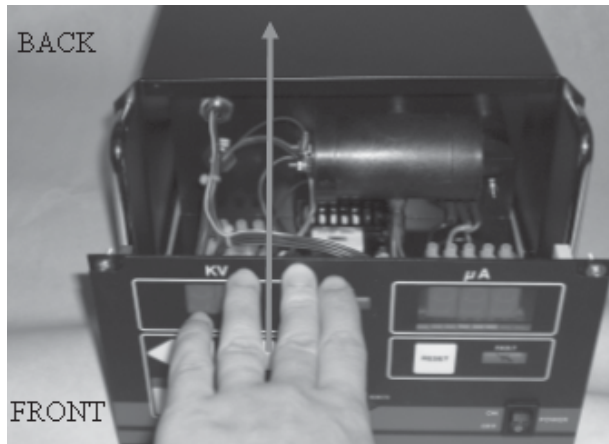

Figure 10: Sliding the Chassis Assembly Back Into the Control Unit Case
18. Push the chassis assembly back into the control unit case as shown in Figure 10.